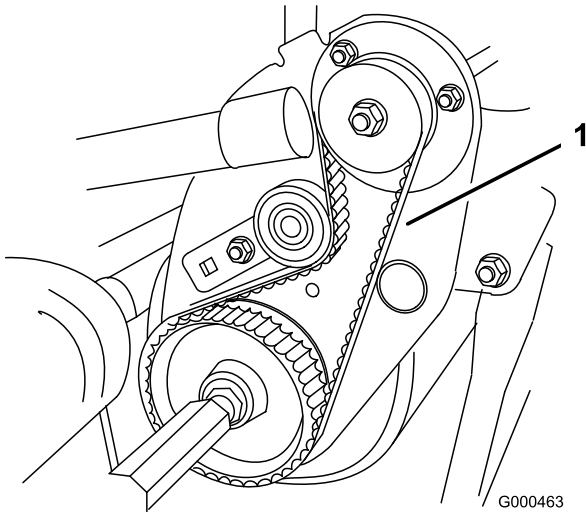

Figure 41
2. Check tension by depressing belt (Figure 41) at mid span of pulleys with 4 ± 1 lb of force. Belt should deflect $3/16$ to $5/16$ inch (4.8 to 7.9 mm). If the deflection is incorrect, proceed to next step.